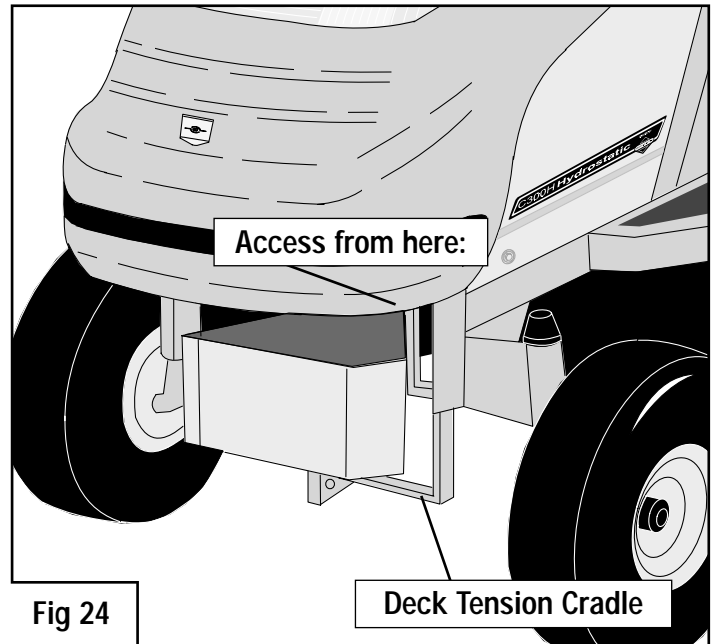

Fig 24
2. Taking care not to burn yourself on a hot exhaust, locate the Trunnion at the end of the Belt Tension Rod, look to the front (nearside) close to the exhaust (see fig 24).